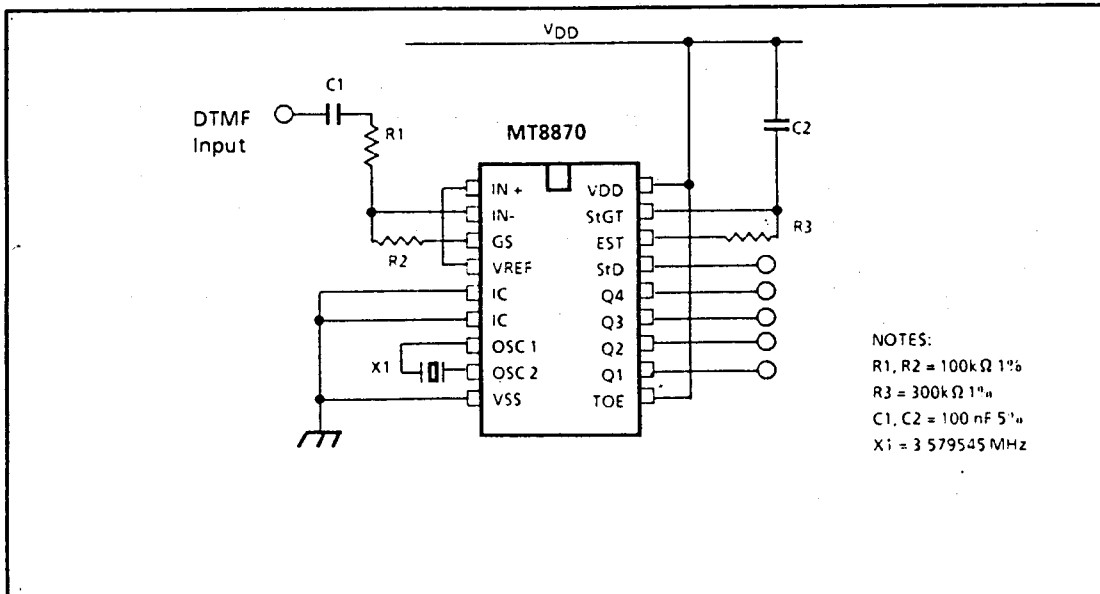
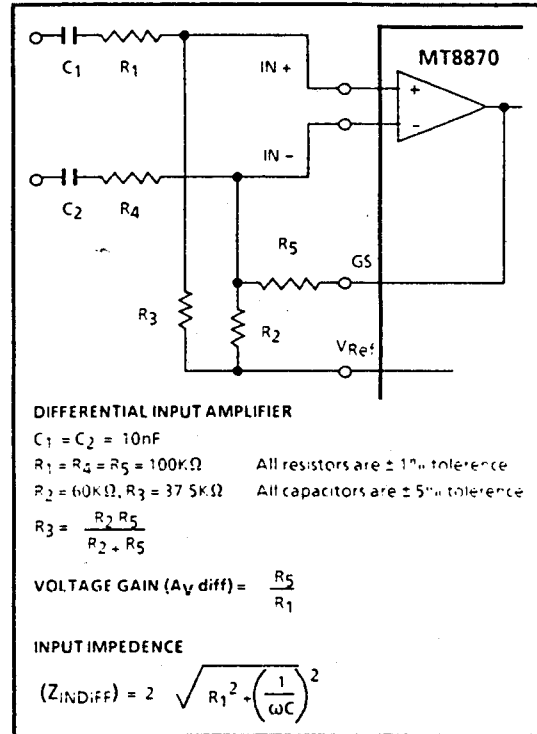
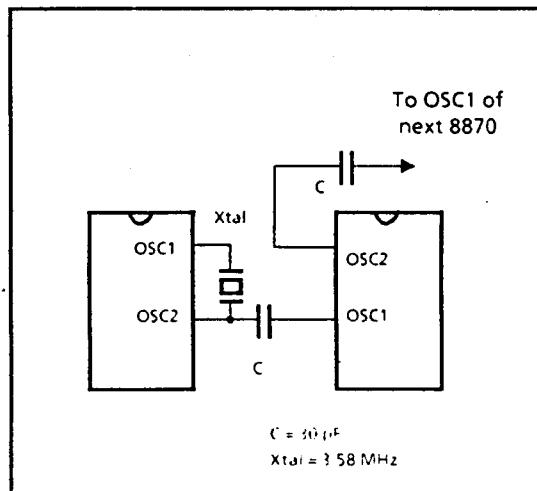

Figure 2. Single Ended Input Configuration
Figure 8. Differential Input Configuration
Figure 9. Oscillator Connection
† VDD = 5 V, VSS = 0, TA = 25° C and fC = 3.579545 MHz using test circuit shown in Figure 2
†VDD = 5V, VSS = 0V, TA = 25°C and fC = 3.579545 MHz, using test circuit in Figure 2
The input arrangement of the MT8870 provides a differential-input operational amplifier as well as a bias source ( $V_{REF}$ ) which is used to bias the inputs at mid-rail. Provision is made for connection of a feedback resistor to the op-amp output (GS) for adjustment of gain. In a single-ended configuration, the input pins are connected as shown in Fig. 2 with the op-amp connected for unity gain and  $V_{REF}$  biasing the input at  $\frac{1}{2}V_{DD}$ . Fig. 8 shows the differential configuration, which permits the
The internal clock circuit is completed with the addition of an external 3.58 MHz crystal and is normally connected as shown in Figure 2 (Single Ended Input Configuration). However, it is possible to configure several MT8870 devices employing only a single oscillator crystal. The oscillator output of the first device in the chain is coupled through a 30 pF capacitor to the oscillator input (OSC1) of the next device. Subsequent devices are connected in a similar fashion. Refer to Fig. 9 for details. The problems associated with unbalanced loading are not a concern with the arrangement shown, i.e.; precision balancing capacitors are not required.